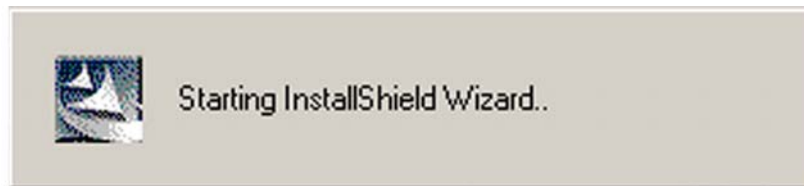

Figure 6-20: AC`97 Audio Driver Install Shield Wizard Starting
Step 4: Once you double click the **Setup** icon, the install shield wizard for the audio driver starts. See Figure 6-20.